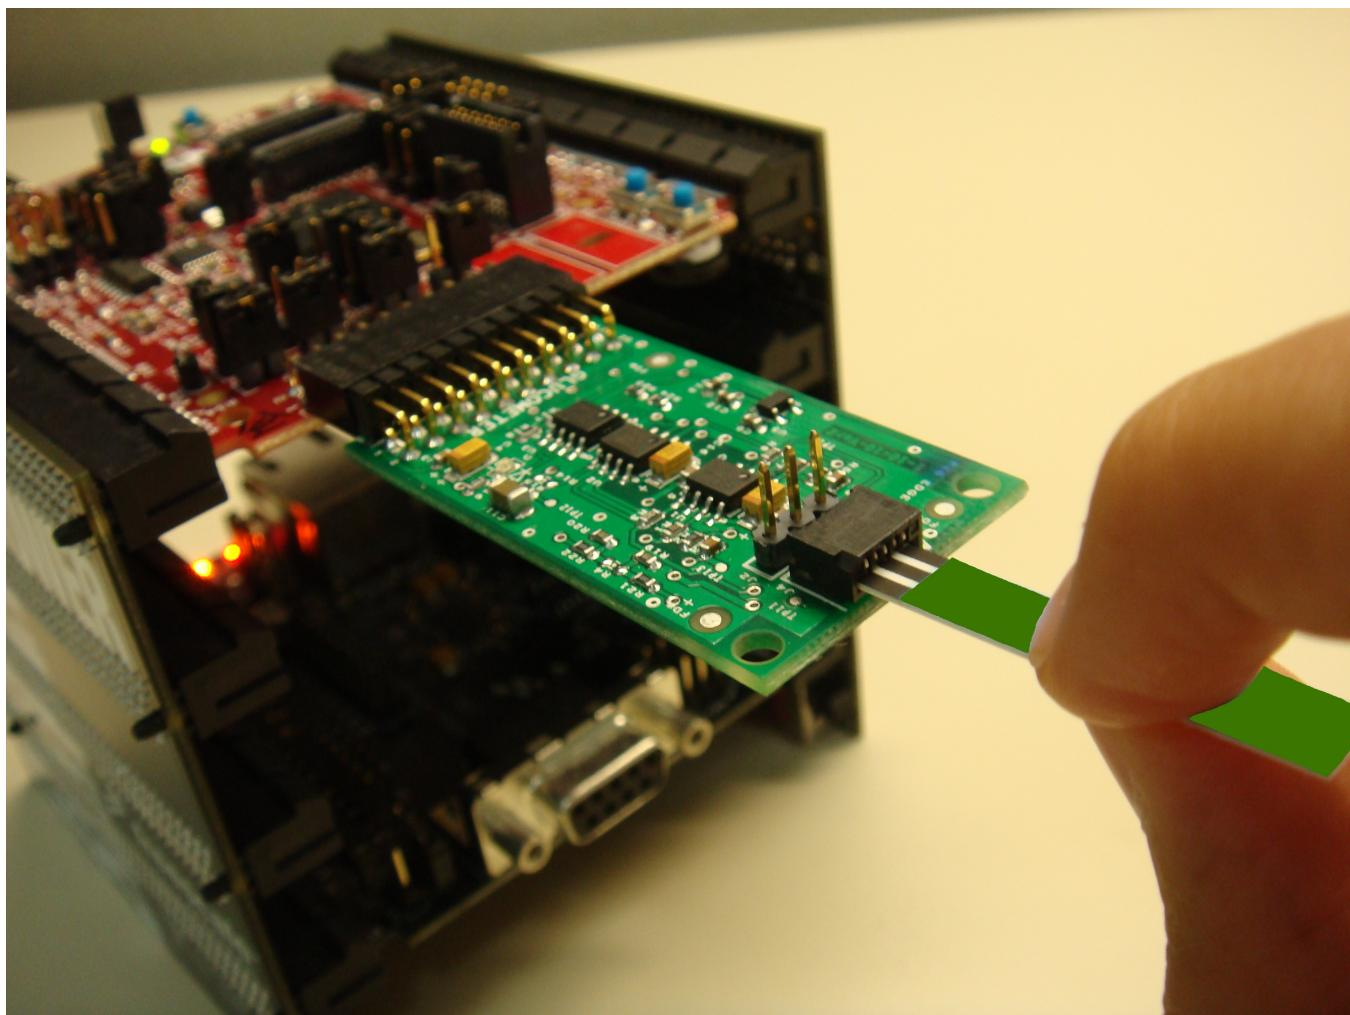
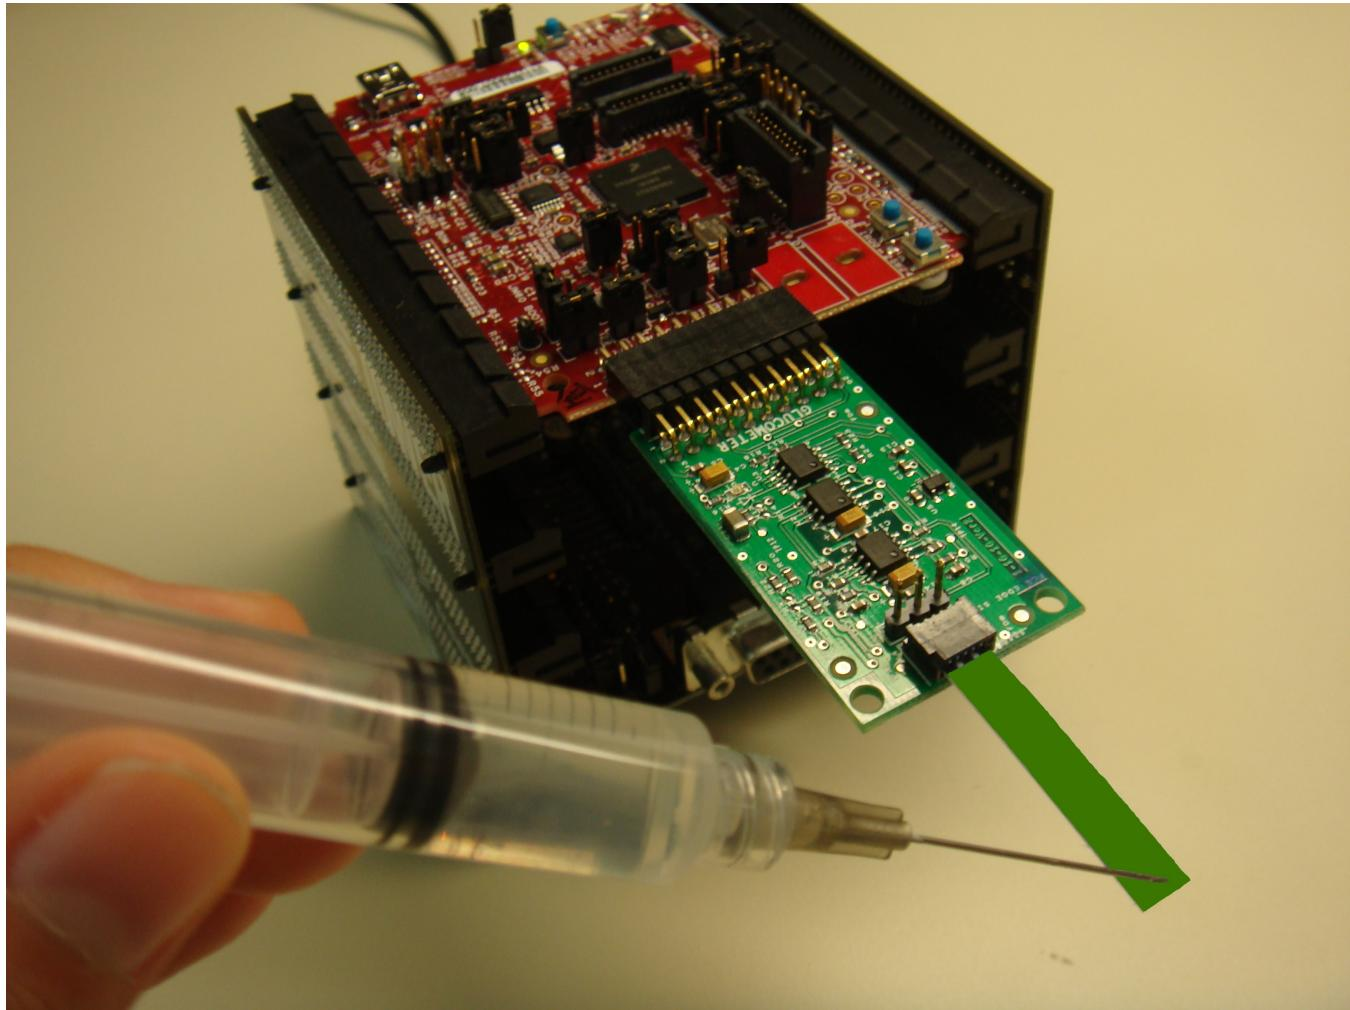
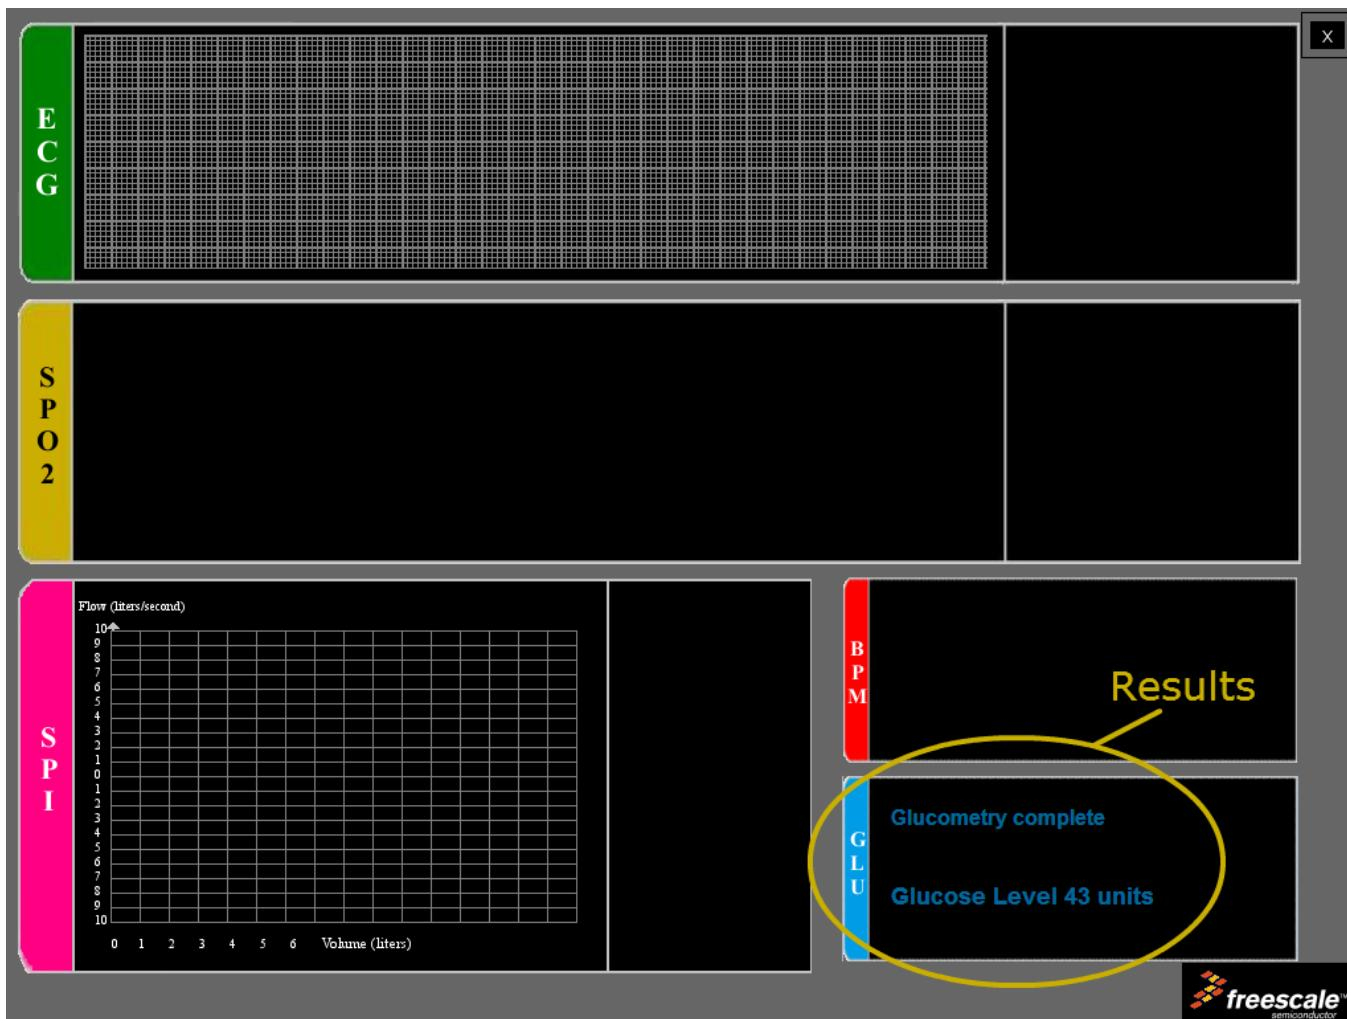

Figure 24. Test strip placement
Figure 25. Glucose sample placement
Figure 26. GUI running
5. Place the test strip on the connector of the AFE as shown in Figure 24 and click on the GLU area on the GUI. Now place the glucose sample on the white target area at the end of the test strip as shown in Figure 25. Measurements will start and after a while, the measurements will appear on screen as shown in Figure 26.